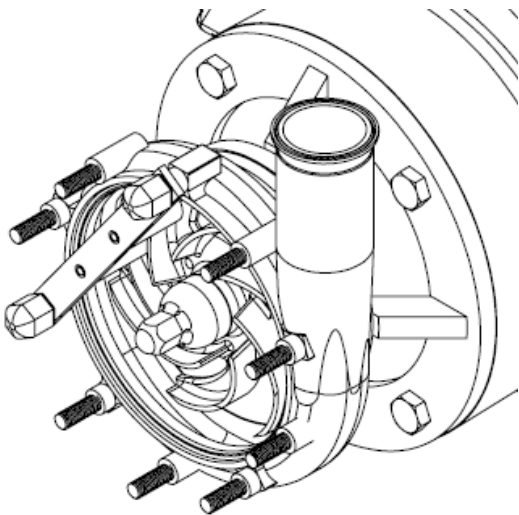

Figure 20
11. Put the impeller stop tool over two casing studs as shown to hold the impeller while tightening the impeller screw. Torque the $15/16$ " impeller screw to 40 ft-lbs. Figure 20.